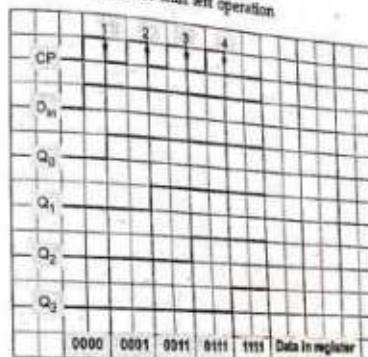

Fig. 5.8.6 Waveforms for shift left register
- Fig. 5.8.6 shows waveforms for shift left operation